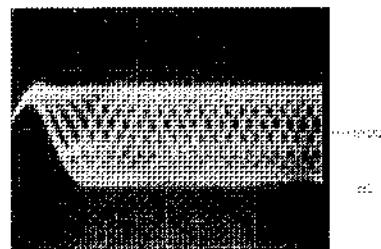

Fig. 22
- Observe RFO in respect to REFOUT in the oscilloscope, and adjust VR355(FEB) to obtain maximum RF and optimum eye pattern. (See Fig.22,23)